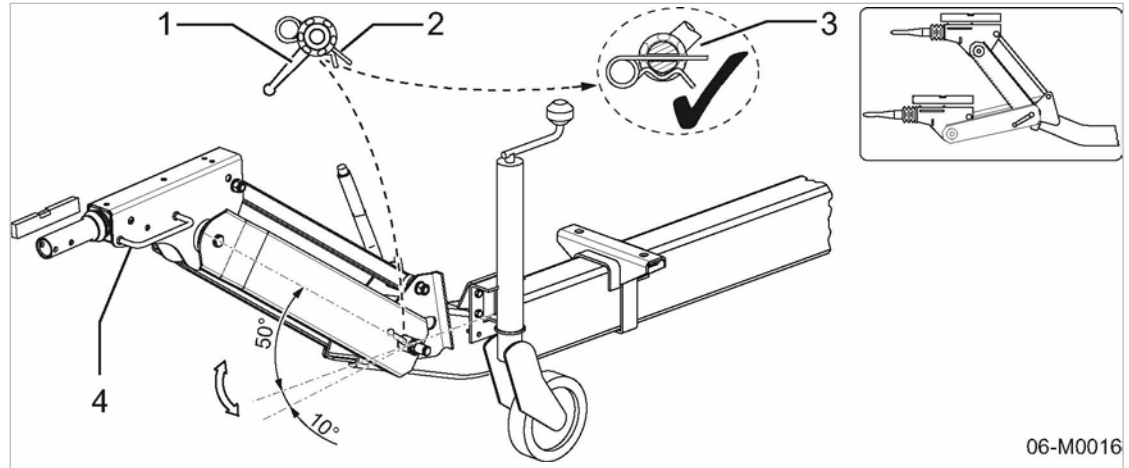

Fig. 25 Towbar height adjustment
The parallel tie bar ensures that the overrun braking mechanism stays horizontal (Fig. 25).
- The split pin is correctly inserted to secure the locking lever (see 3 in Fig. 25).